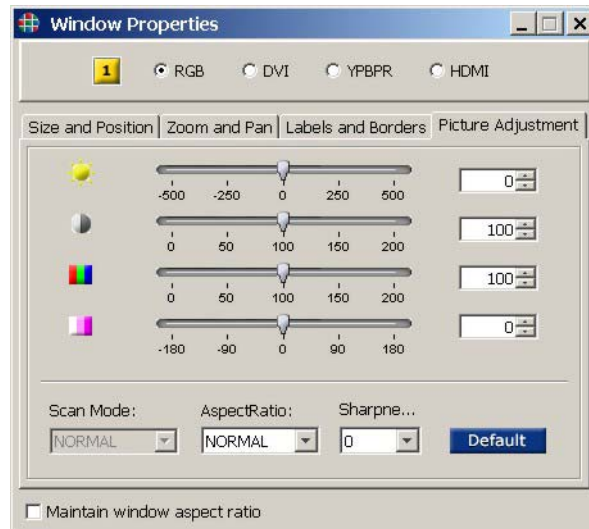

Figure 3-13 Picture Adjustment Tab
1. On the **Windows Properties** page, select the **Picture Adjustment** tab (Figure 3-13).